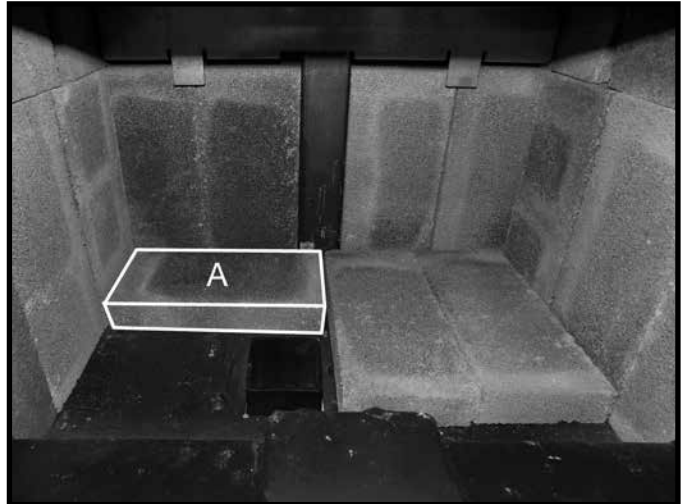

Figure 22. Third floor brick in place.
- Place a third "A" firebrick against the rear wall as shown in Figure 22. on page 15